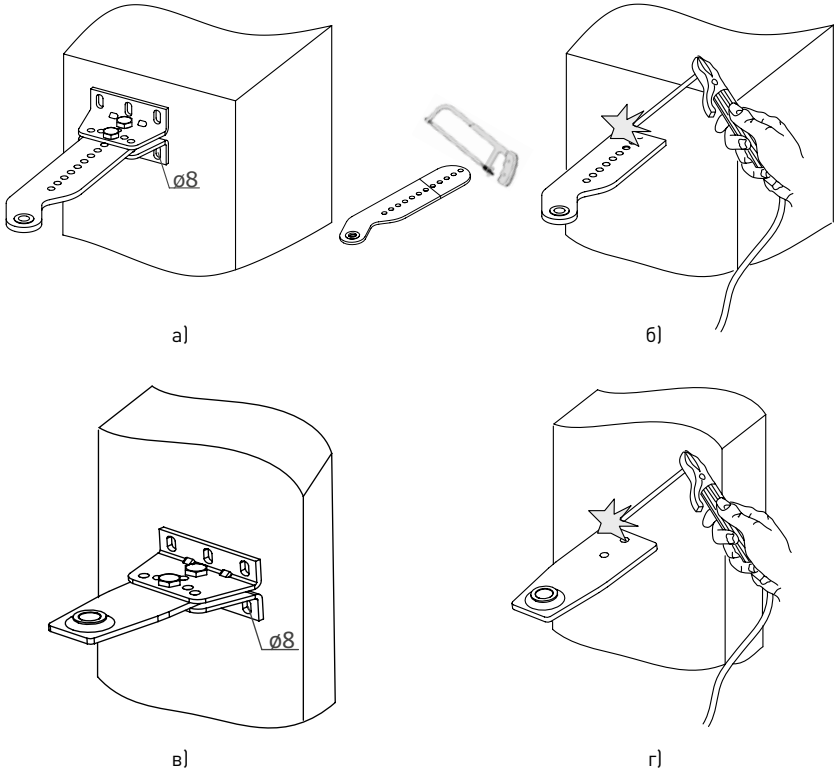
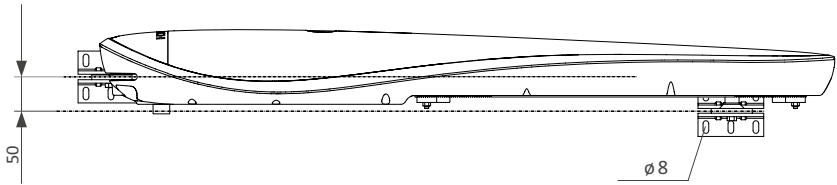

Figure 9. Mounting a rear or front fitting
Figure 11. Mounting a front fitting
- Fix the rear fitting on the post, either bolting it down or welding (*fig. 9*). Make sure the fitting is positioned horizontally. The fitting should be assembled and mounted rigidly.
- Ensuring compliance with the mounting dimension **W**, fix the front fitting on the leaf (*fig. 11*), either by bolting it down or welding (*fig. 9*). Use a spirit level to verify throughout the mounting process.